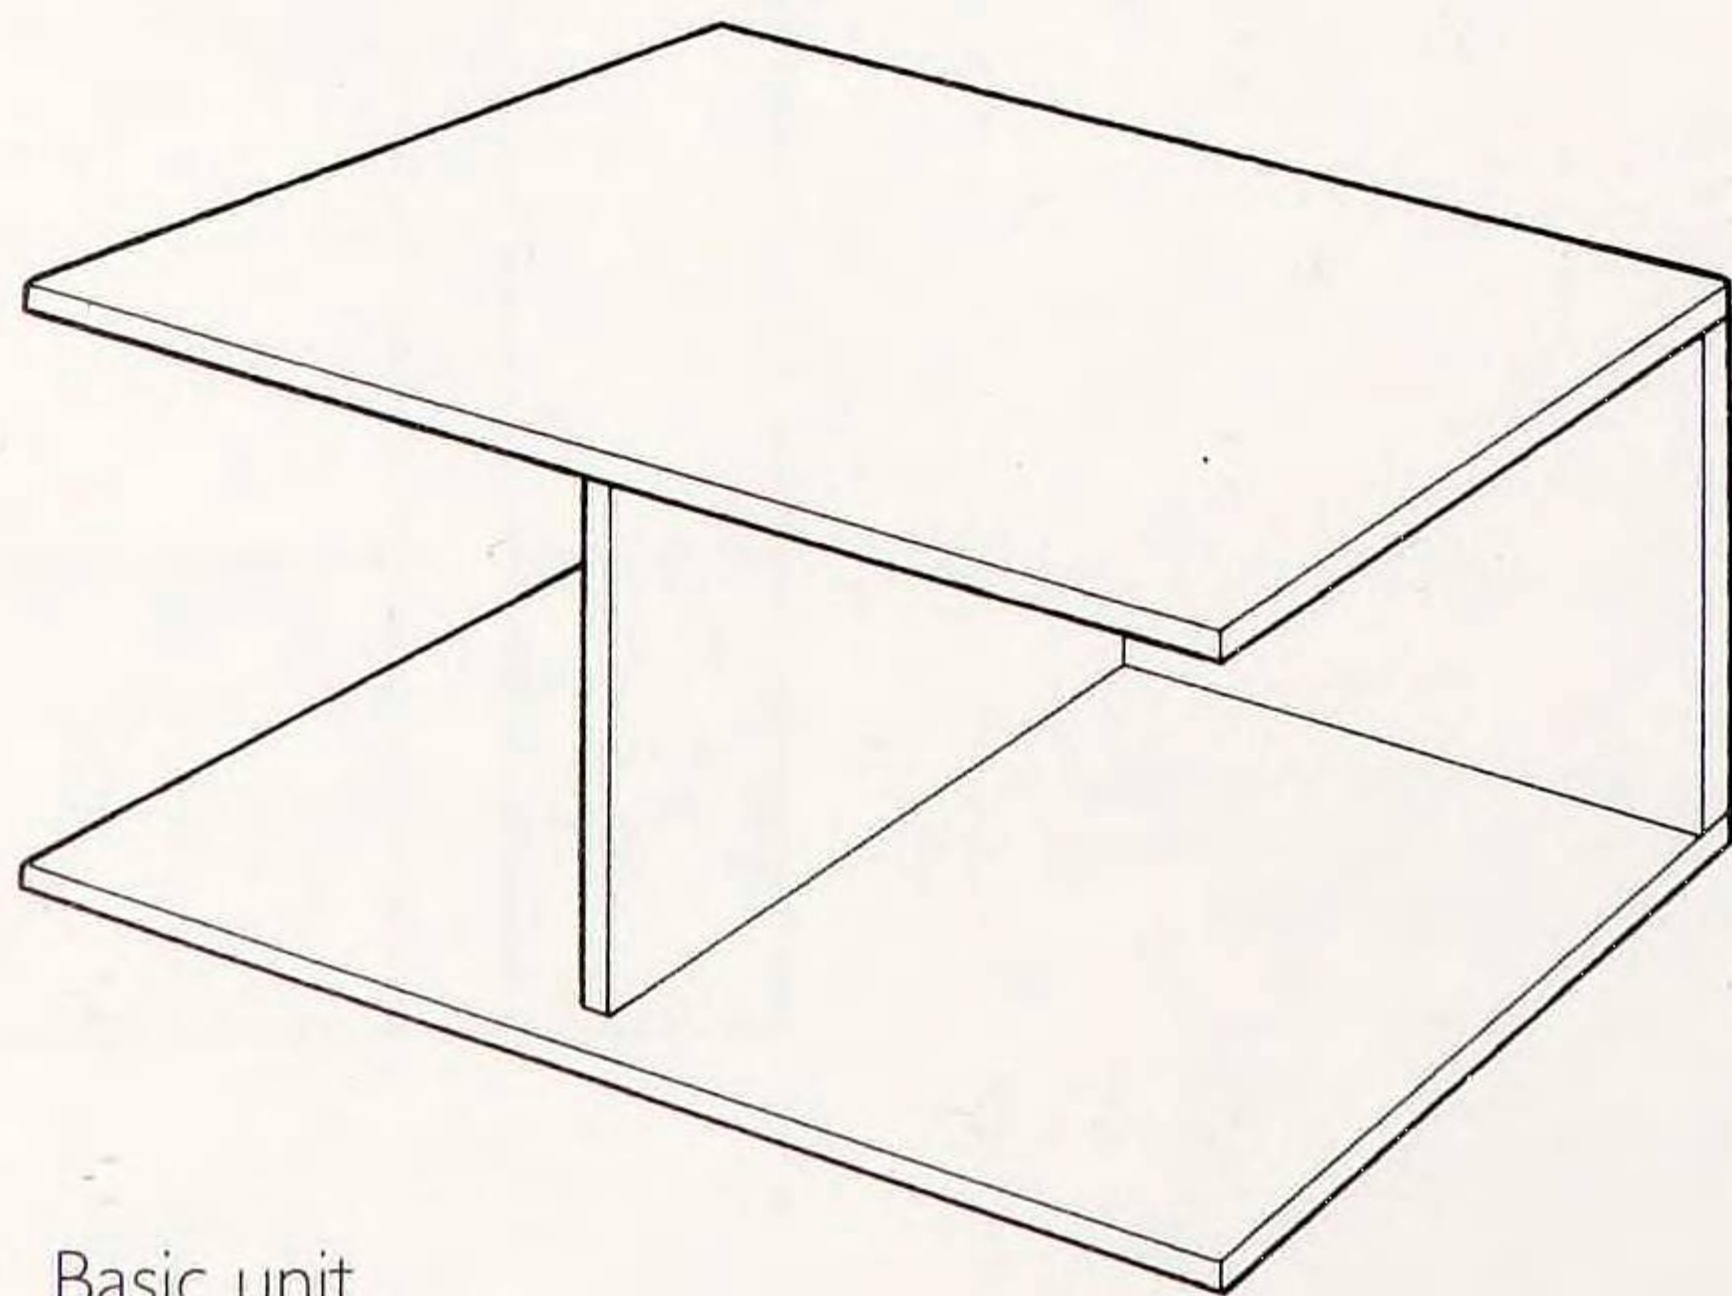

Fig. 1 Basic unit
1. Construct the basic unit, which consists of a top, bottom, back and central partition, using tongues and grooves, biscuits or dowels, depending on your toolkit (Fig. 1). As an alternative, it is also possible to screw